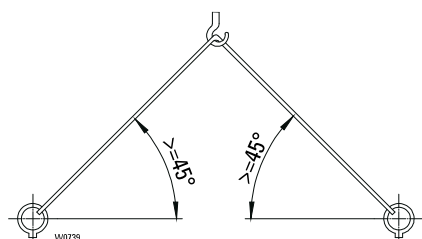

Fig. 1
- The sling points are designed for a max. diagonal pull $\geq 45^\circ$, see **Fig. 1**.